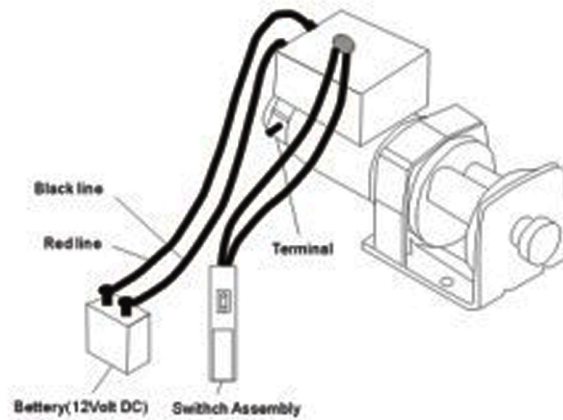

Figure 4
2) Route the lines from the switch. One goes to the motor and the other to the battery. Connect the red line to the positive terminal and the green (or black) line to the negative terminal of the 12 volt battery. Connect the other two lines to the terminal on the motor (fig 4).